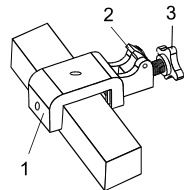

Fig. 6a
The C-clamp that holds the hang bar rod can be mounted either horizontally or vertically (Fig. 6a & 6b).
1. To open the clamp (1), pull back on the quick release lever (2) and pull outward on the clamp knob (3).
2. Clamp the C-clamp onto a work table (horizontal surface) or other appropriate vertical surface by pushing inward on the clamp knob and the quick release lever. Complete the tightening process by turning the clamp knob clockwise (Fig. 6a & 6b).